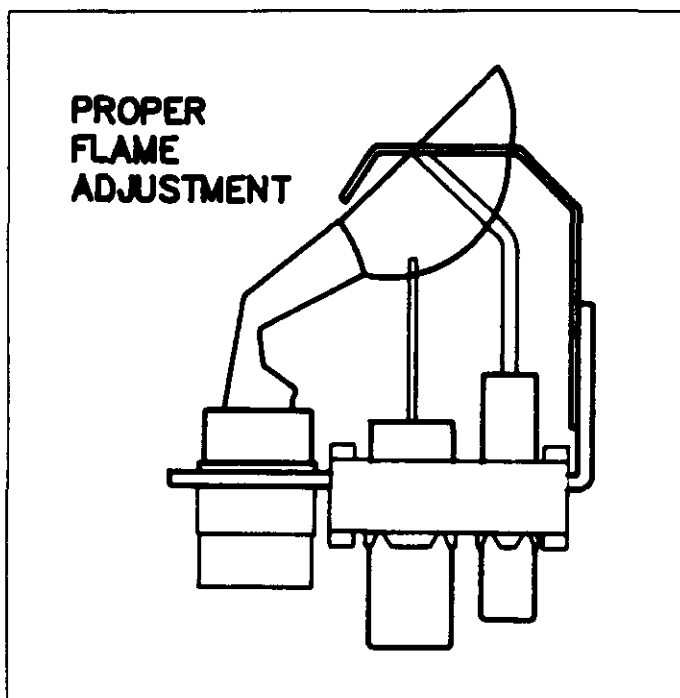

FIGURE 34
3. Pilot flame should cover 1/2" of tip of flame sensor as shown in Figure 34.